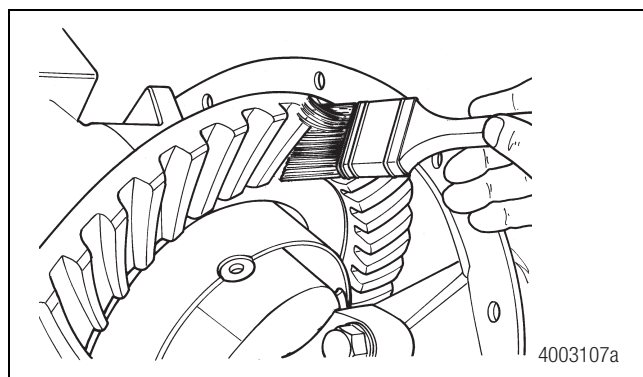

Figure 4.26
1. Apply a marking compound to approximately 12 gear teeth of the ring gear. Rotate the ring gear so that the 12 gear teeth are next to the drive pinion. Figure 4.26.